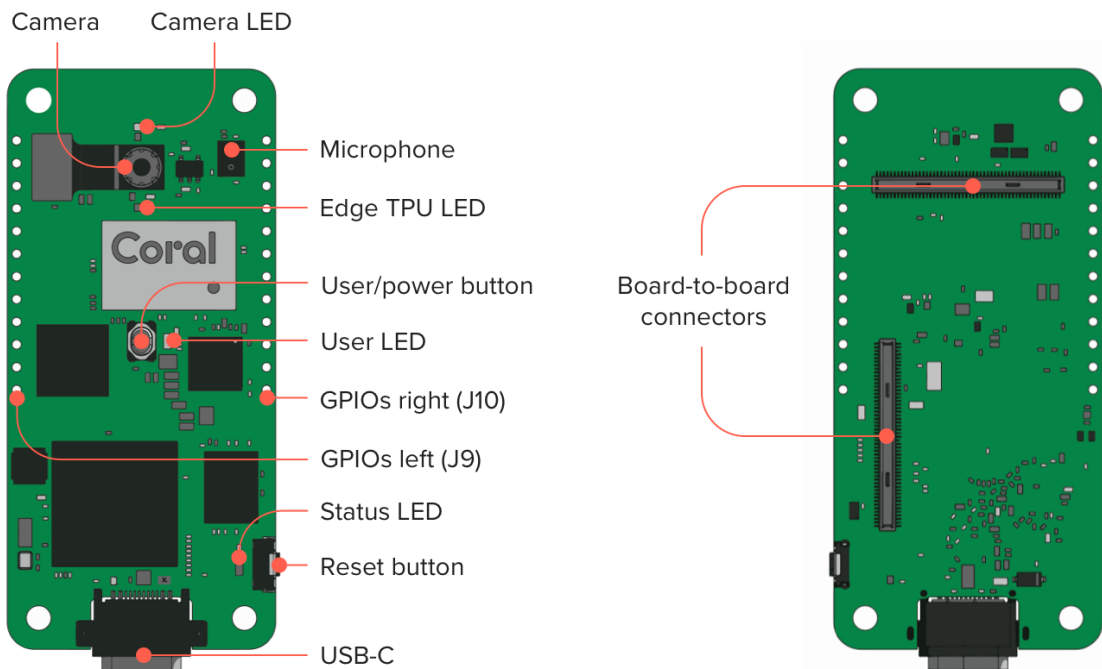

Figure 3. User interface and peripheral components
**Table 5.** Description of the on-board LEDs (see figure 3 for LED locations)
The Dev Board Micro includes high-density board to board connectors on the bottom of the board (indicated in figure 3), allowing you to connect add-on hardware such as the Coral Wireless Add-on board (sold separately), the Coral PoE Add-on board (sold separately), or other custom add-on hardware.